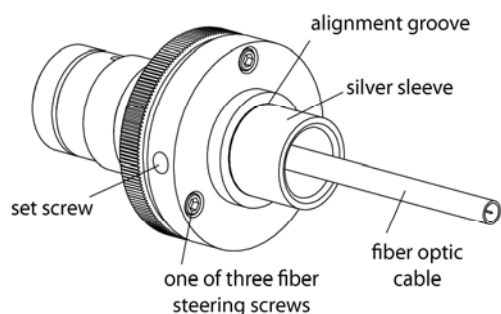

Figure 3 - Components of a lens assembly
1. Use the 5/64-inch hex screwdriver from the **qpod 2e** accessory kit to loosen the set screw (**Figure 3**).